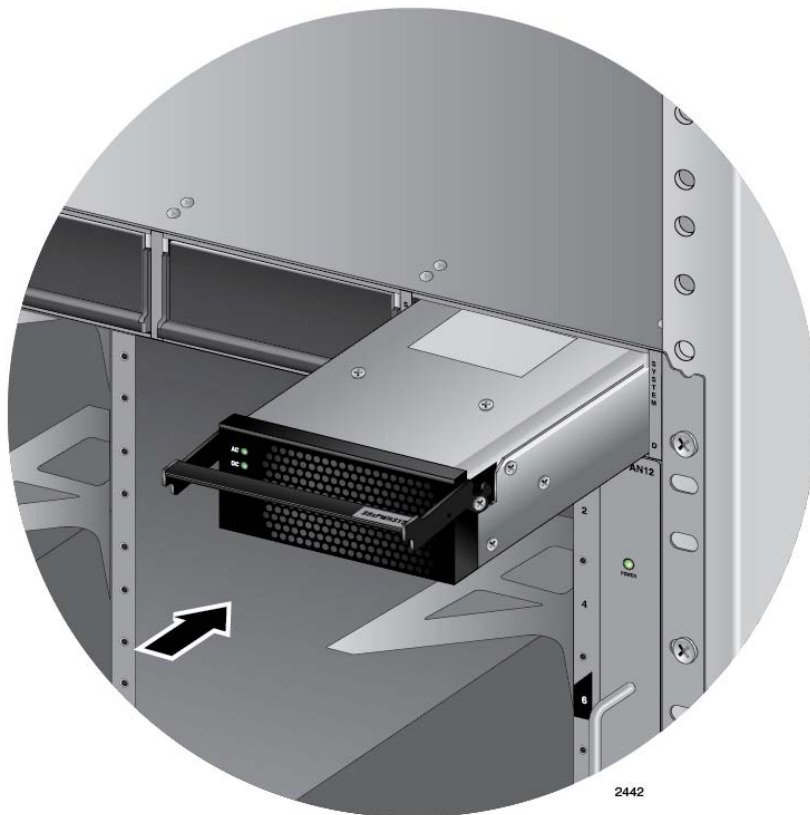

Figure 43. Inserting the AT-SBxPWRSYS1 or AT-SBxPWRSYS2 AC System Power Supply
5. Align and insert the power supply into the power supply slot. Figure 43 shows the power supply installed in slot D.